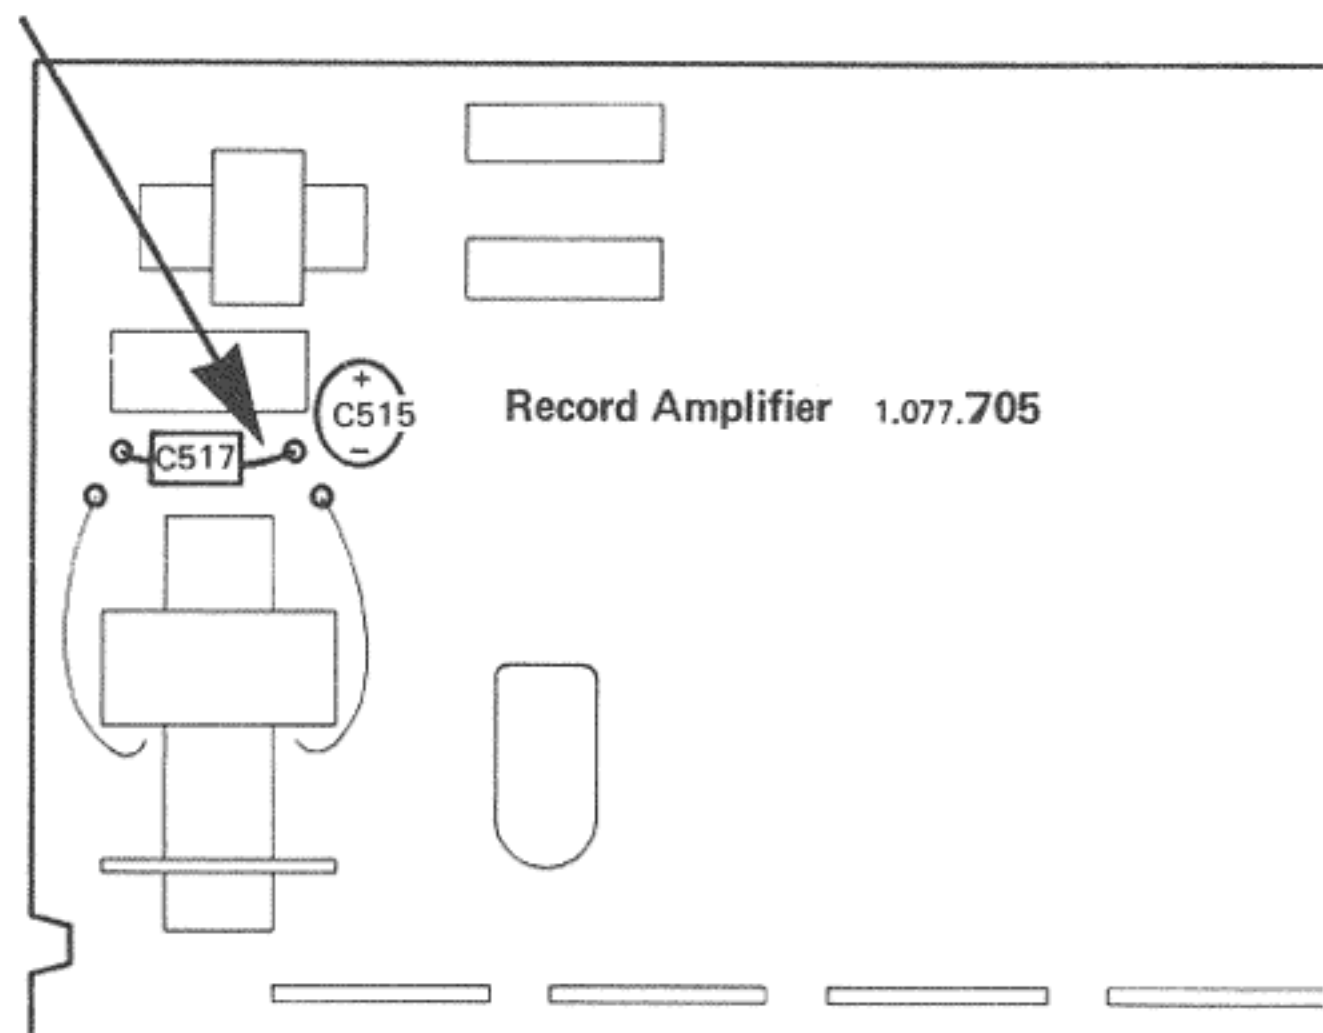

Fig. 6.4.-63
— Set controls per fig. 6.4 –59
A. — Measure erase head voltage against ground with VTVM at VU-meter board ( fig. 6.4 –60 ) orange HB3 ( CH 2 ) and blue HB6 ( CH 1 ).
- Oscillator frequency is measured with digital counter or oscilloscope. The frequency is 120 kHz (  $\pm 5$  kHz ) and is measured at orange HB3 and blue HB6 ( fig. 6.4 –60 ) against ground. ( Oscilloscope: 12 oscillations per 100  $\mu$ sec ).
- Connect digital counter or oscilloscope to blue HB6 ( fig. 6.4 –60 ).
— Set controls per fig. 6.4 –62
- Connect VTVM to test point C 515 of the respective record amplifier ( fig. 6.4 –63 ), see also diagram 1.077.705.
- Set minimum voltage at BIAS TRAP CH 1 and CH 2: Less than  $< 300$  mV ( fig. 6.4 -64 ).
- Under same conditions as 6.4.3. but, connect VTVM to OUTPUT terminals CH 1 and CH 2 and set BIAS TRAP of playback amplifier to a voltage minimum : Less than  $< 50$  mV ( fig. 6.4 -64 ).